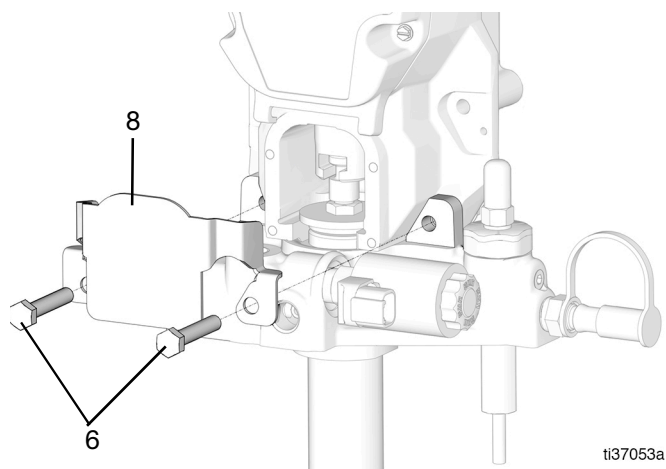

FIG. 32
10. Remove the two bolts (6) and two nuts (not shown) from the protective cover (8) (FIG. 32).